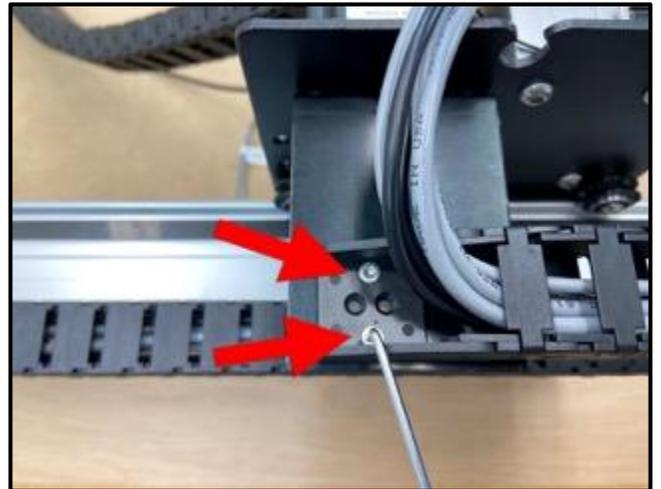

Figure 6-13
4. Use the 2mm hex key and two (2) M3x4mm flat head screws to secure the Y-Axis drag chain to the head bracket as shown in **Figure 6-13**.